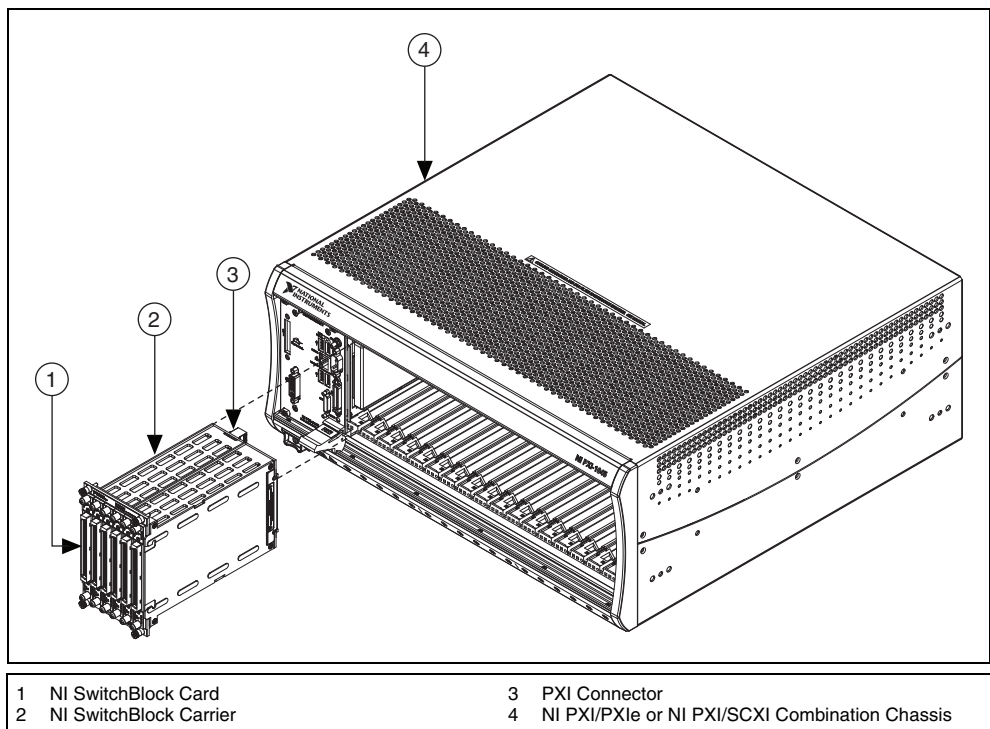

Figure 1. Installing an NI SwitchBlock Carrier
Refer to Figure 1 and complete the following steps to install an NI SwitchBlock carrier.
8. Slide the carrier into the empty slots, ensuring that the carrier engages with the card guides in the chassis, as shown in Figure 1. When you begin to feel resistance, continue to push the carrier into the slot until the carrier front panel is even with the front panels of adjacent modules or the chassis controller.